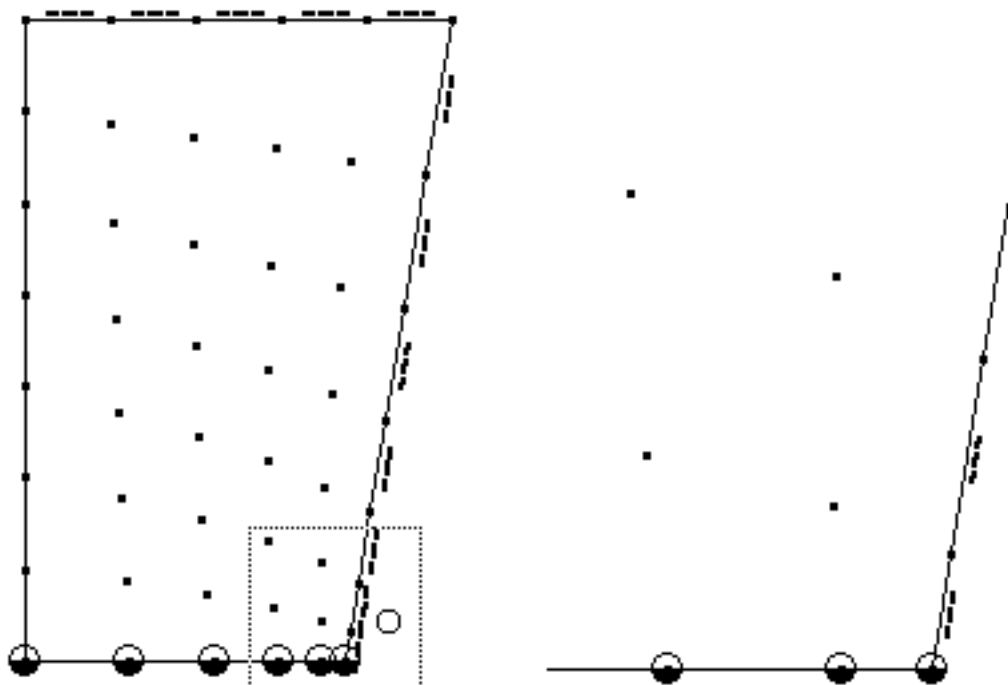

Fig 3.51 Zoom to assign conditions
The windows menu provides movement between the whole plot and a zone plot. See Fig 3.51 for details required to create a zone plot.
- Press and hold the option key to turn the cursor into a plus sign and drag a selection rectangle (Fig 3.51). With the option key continuously pressed, click inside the selection rectangle to produce an enlarged view.